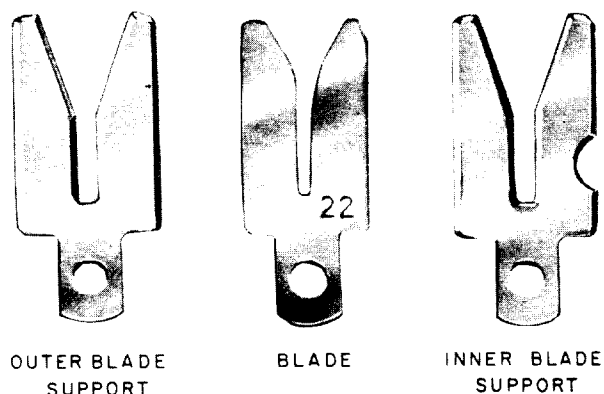

Fig. 2—Blade and Blade Supports
2.04 The stripping blade is mounted on the tool by means of a round-head machine screw and an inner and outer blade support (Fig. 2). To change blades, remove the screw, blade, and blade supports. Insert the new blade between the blade supports and remount on the tool. Make certain the notched inner blade support is nearest the cutting jaws.